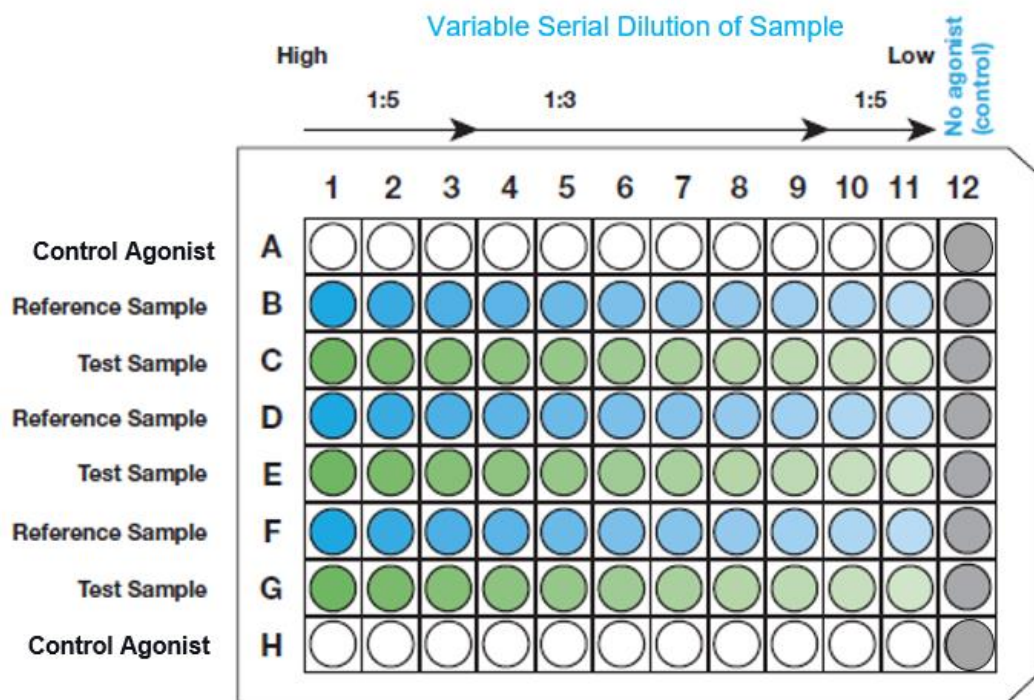

Figure 2. Representative Assay Plate Map
7. Add 20 μ L from the Sargramostim reference curve from Row A on the MDP to the appropriate wells of the assay plate (e.g. Rows B, D and F) as shown in the Representative Assay Plate Map (Figure 2).
8. Add 20 μ L from the test sample curve from Row B on the MDP to the appropriate wells of the assay plate (e.g. Rows C, E and G) as shown in the Representative Assay Plate Map (Figure 2).
9. Add 20 μ L from the GM-CSF control curve from Row C on the MDP to appropriate wells of the assay plate (e.g. Rows A and H), as shown in the Representative Assay Plate Map (Figure 2).